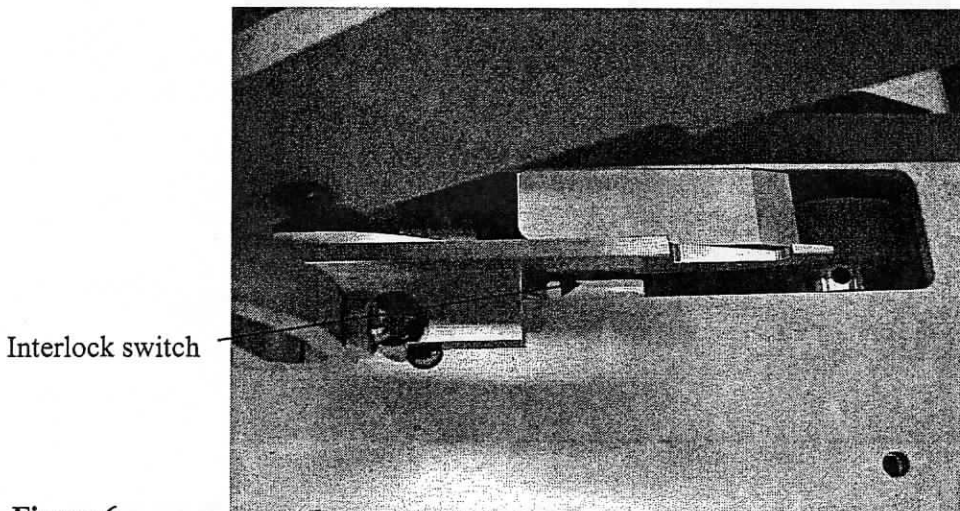

Figure 6
13. Install the interlock switch by gluing the switch in on the left-hand side of the machine (see Figure 6) with a suitable permanent machine glue.